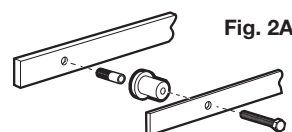

Figure 2A
Drill pilot hole. Insert lag bolt (X) through first track hole, then place the track spacer (S) through the bolt on back of the track. Install the lag bolt with ½” socket ratchet. Do not tighten fully. Swing the track up and use the level to ensure the track is straight. Mark the remaining holes in the track. Drill remaining pilot holes. Slide the door stopper (T) onto the track for the end of the track where you installed the first bolt so it is between the first and second holes on that end of the track. Install the center bolt and spacer on the track. Install the remaining bolts and spacers. Go back and fully tighten the first bolt. Slide the remaining stopper onto the other end of the track. Do not set either stopper at this point. **Refer to Figures 2A, 2B & 2C.**